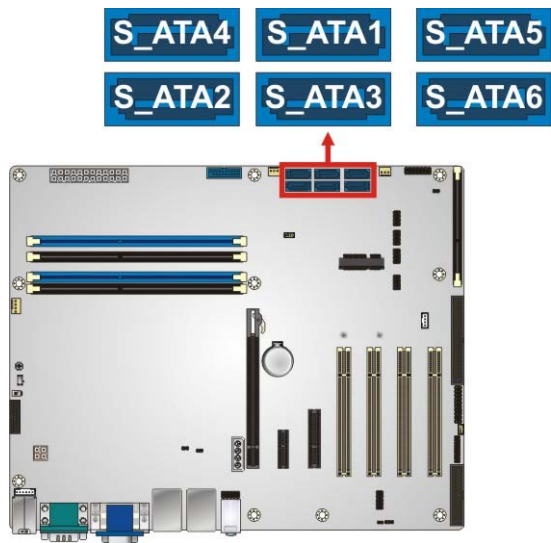

Figure 3-21: SATA 6Gb/s Drive Connector Locations
- CN Location:       See Figure 3-21